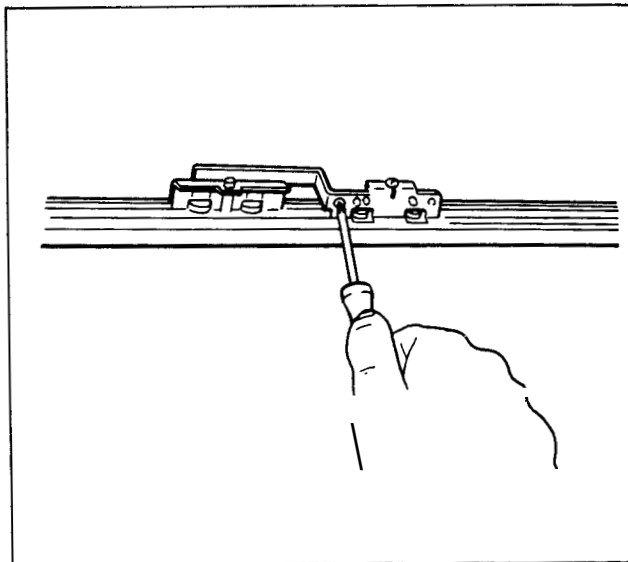
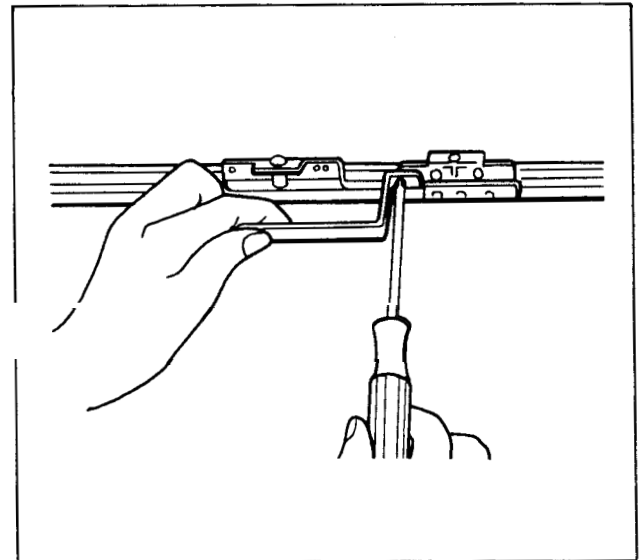

Fig. 12
Fig. 13
13. The rod assembly comes set up to have the motor mounted on the right side of the rod. However, it can just as easily be placed at the left side by removing the two screws that fasten the arm to the closing plate (Fig. 12), reversing the arm and reattaching to the same side, (on the same closing plate). (Fig. 13) The overlap arm should be attached so as to project toward the interior of the room once the rod has been mounted.